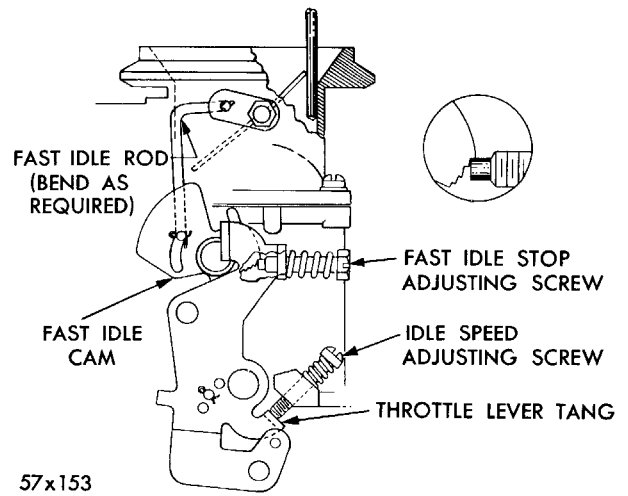

Fig. 22—Fast Idle Adjustment
(1) To make the fast idle speed and cam position adjustment, turn the idle speed adjusting screw **out** far enough to clear the throttle lever tang when the throttle valves are closed.
(2) Hold the throttle valves in closed position, then turn the fast idle adjusting screw **out** until the fast idle cam can be positioned, as shown in Figure 22.
(3) From the point of initial contact with the step of the cam as shown, turn the fast idle screw **in** 8 turns.
(4) With the fast idle screw held in the position illustrated, move the choke valve with light pressure toward